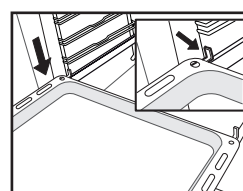

Fig. 5
5. Put the accessories on the slider (Fig. 5, 6).